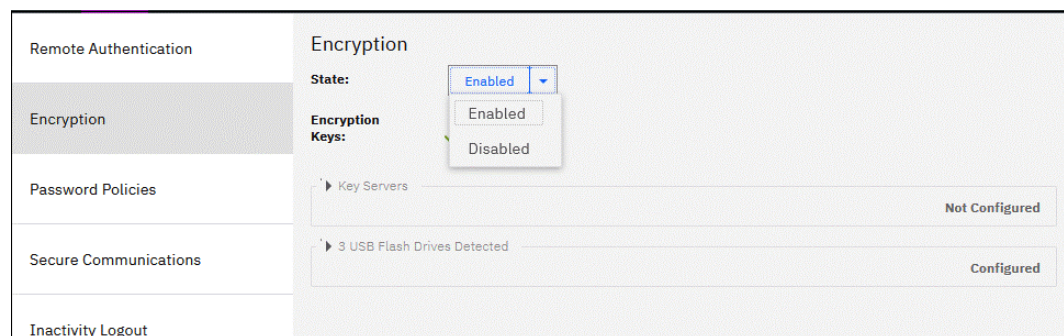

Figure 12-75 Disabling encryption on a system with both providers
1. Select **Settings** → **Security** → **Encryption** and click **Enabled**. If no encrypted objects exist, a menu is displayed. Click **Disabled** to disable encryption on the system. Figure 12-75 shows an example for a system with both encryption key providers configured.